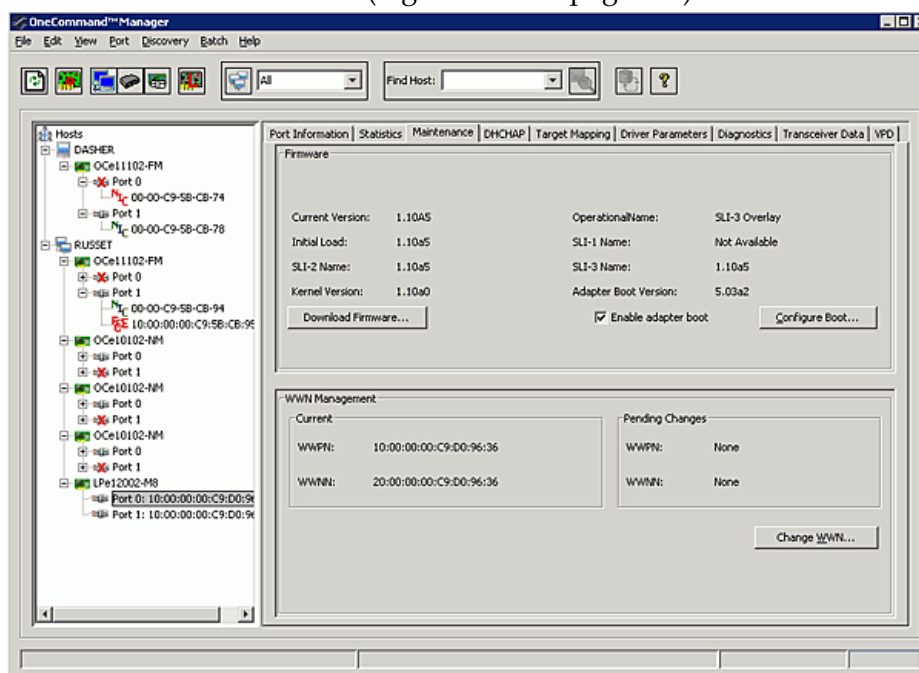

Figure 8-26 Maintenance Tab
The Maintenance tab (Figure 8-26 on page 152) enables you to change the WWPN and the WWNN of a selected FC/FCoE function. For example, you might want to use an installed adapter as a standby in case another installed adapter fails. By changing the standby adapter's WWPN or WWNN it can assume the identity and configuration (for example, driver parameters, persistent binding settings, and so on) of the failed adapter.
3. Select the **Maintenance** tab (Figure 8-26 on page 152).